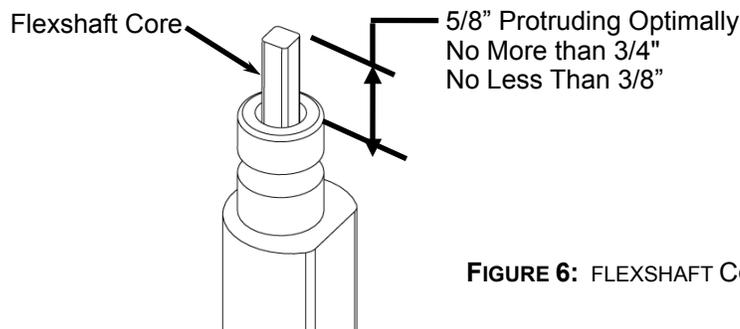

FIGURE 6: FLEXSHAFT CORE ASSEMBLY INTO
4. **Prepare the flexshaft assembly:** Remove the plastic wrapping and rubber band from the end of the flexshaft assembly. Gently pull the protruding flexshaft core (with squared end) out of the sheath several inches. Holding the end vertically, push the core back into the sheath and make sure that it slips into, and engages, the cutting motor. It will drop into the receptacle on the motor side about $5/8^{\text{th}}$ of an inch. Turn the core by hand and feel for resistance of the motor. If the shaft spins without resistance, push the core inward while rotating until it drops into the slot and engages the motor. The flexshaft core should appear as in Figure 6.